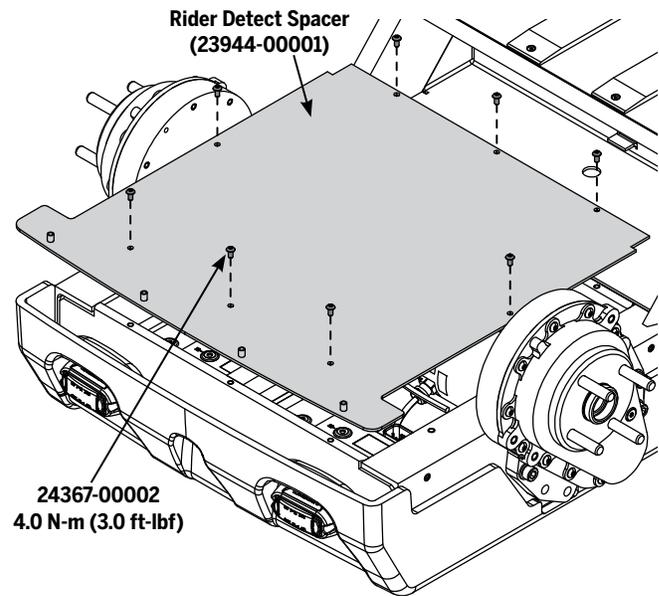

Figure 128: Motor Cavity Lid
5. Using a 3 mm hex wrench, remove the eight fasteners as shown in **Figure 128**.
3. Using a 3 mm hex wrench, install the eight fasteners as shown in **Figure 128**.